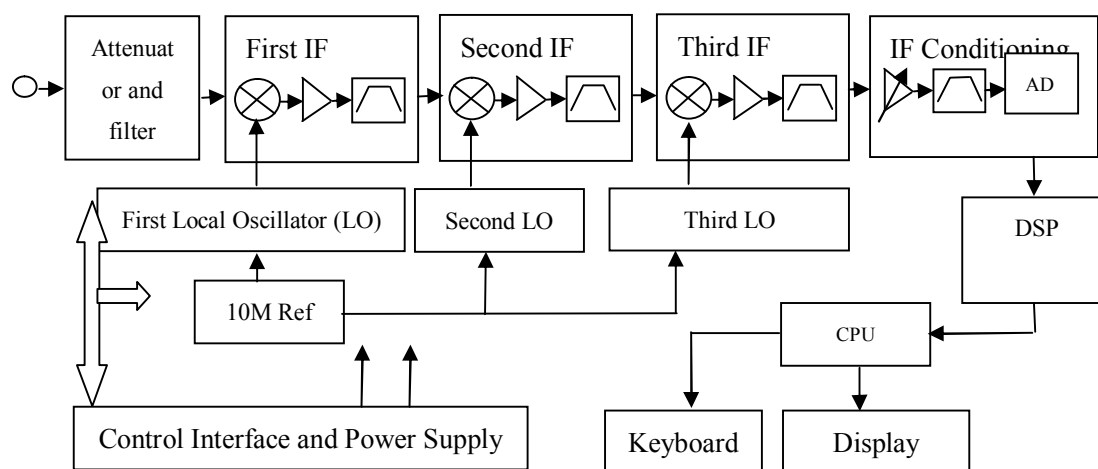

Fig. 5-1 Functional Block Diagram of SSA3030 Spectrum Analyzer
SSA3030 radio frequency spectrum analyzer is a superheterodyne sweep spectrum analyzer. It mainly consists of radio frequency part, intermediate frequency (IF) part, data acquisition and DSP processing part, embedded control, display part and power supply, etc. Its overall hardware functional block diagram is shown in Fig. 5-1.
As shown in Fig. 5-1, a RF input signal within 9kHz~3GHz is, after passing the attenuator and low pass filter (or band-pass filter), sent to the first mixer. In the first mixer, the input signal is mixed with the first LO signal to generate the first IF signal of 1221.4MHz. After passing the mixer, there is a low-noise amplifier used to compensate the conversion loss in the first mixer. Subsequently, the signal passes the 3dB first IF filter with the bandwidth of 50MHz, in which the needed first LO signal is supplied by the bandwidth voltage controlled oscillator. The first IF signal is mixed with the second LO signal in the second mixer to generate the second IF signal of 465.4MHz. After the mixer, there is still low-noise amplifier. Subsequently, the second IF signal passes the 3dB IF filter with the bandwidth of 20MHz. Then, the second IF signal enters the third mixer, and mixes with the third LO signal to generate the third IF signal of 21.4MHz. After